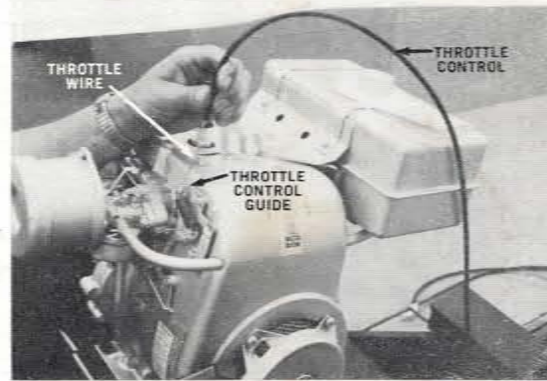

Figure 3
11. Start throttle wire through throttle control guide on engine. See Figure 3.